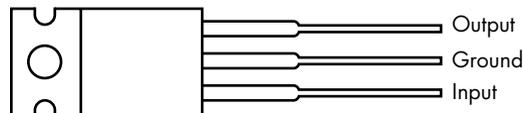

Figure 2-10: Pinout of the LM7805 regulator
5. The input lead of the LM7805 will go to the 9V power supply, the ground of the LM7805 will go to the blue negative rail, and the output of the chip will go to the red positive rail. (See Figure 2-10 for the LM7805 pinout.)